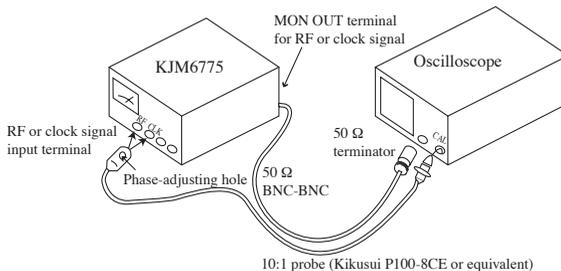

Fig.3-16
1. As shown in Fig.3-16, connect the KJM6775 and a oscilloscope.